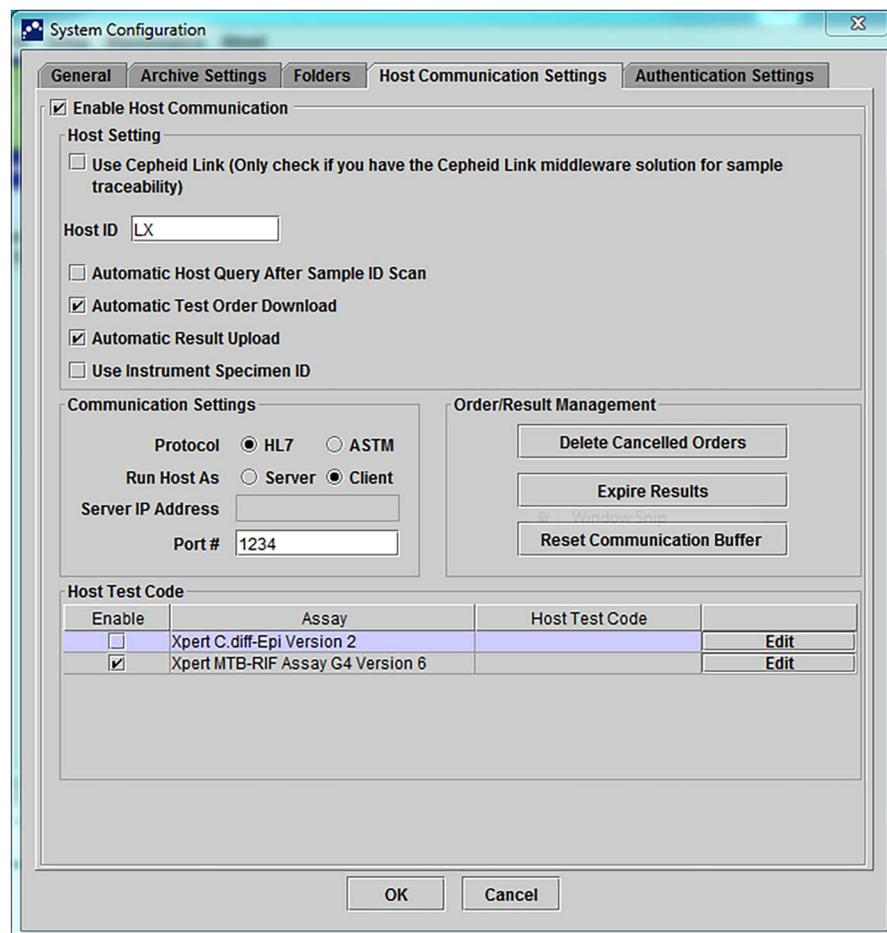

Figure 2-81. System Configuration Dialog Box (Host Communication Settings Tab)
2. Click the **Host Communication Settings** tab. The **Host Communication Settings** tab appears. See Figure 2-81.
2. Select the **HOST COMMUNICATIONS SETTINGS** button (see Figure 2-56) to display the Host Communications Settings workspace. See Figure 2-81.